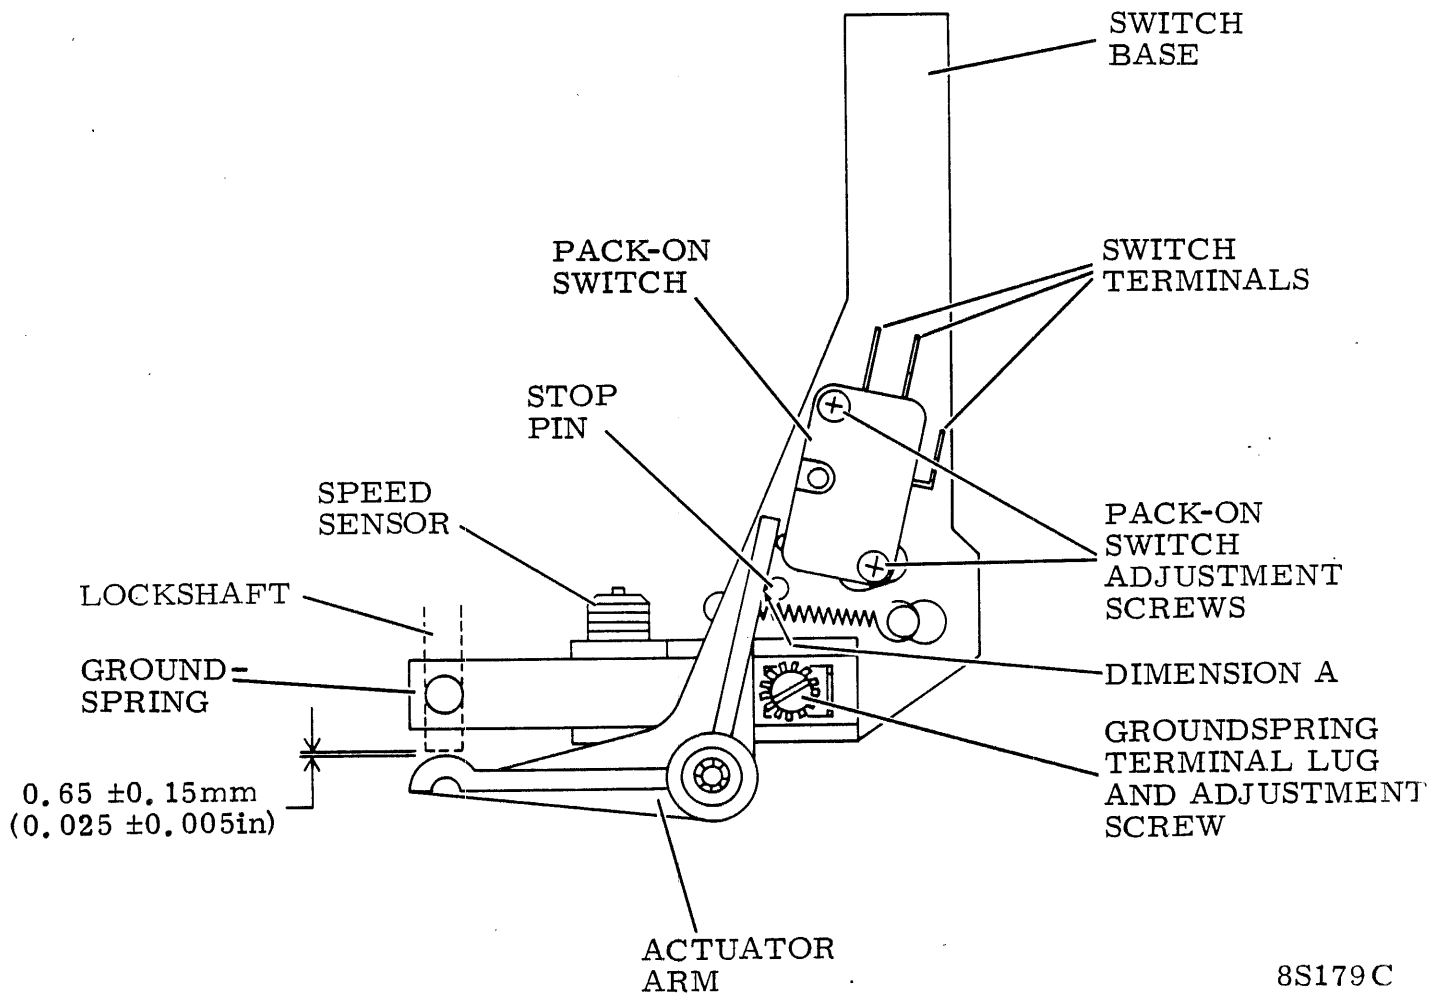

Figure 6-20. Pack On Switch Replacement/Adjustment
5. Identify pack sensor switch leadwires. Disconnect wires at switch (Figure 6-20).
- 5. Identify pack sensor switch leadwires (figure 6-20). Disconnect wires at switch terminals.
- 6. Dimension between actuator arm and lockshaft must be as specified in figure 6-20. If dimension is as specified, go to step 9. If adjustment is required, go to step 7.
- 7. Loosen hardware on switch base bracket (figure 6-20).
- 8. Position switch base bracket until dimension between actuator arm and lockshaft is as specified in figure 6-20. Tighten screws.
9. Connect a multimeter (set to Rx1) to pack sensor switch terminals (figure 6-20). Meter must indicate 0 ohms. If correct go to step 11, if not go to step 10.
11. Insert 0.3 mm (0.011 inch) thick feeler gauge between actuator arm and stop pin (dimension A of figure 6-20).